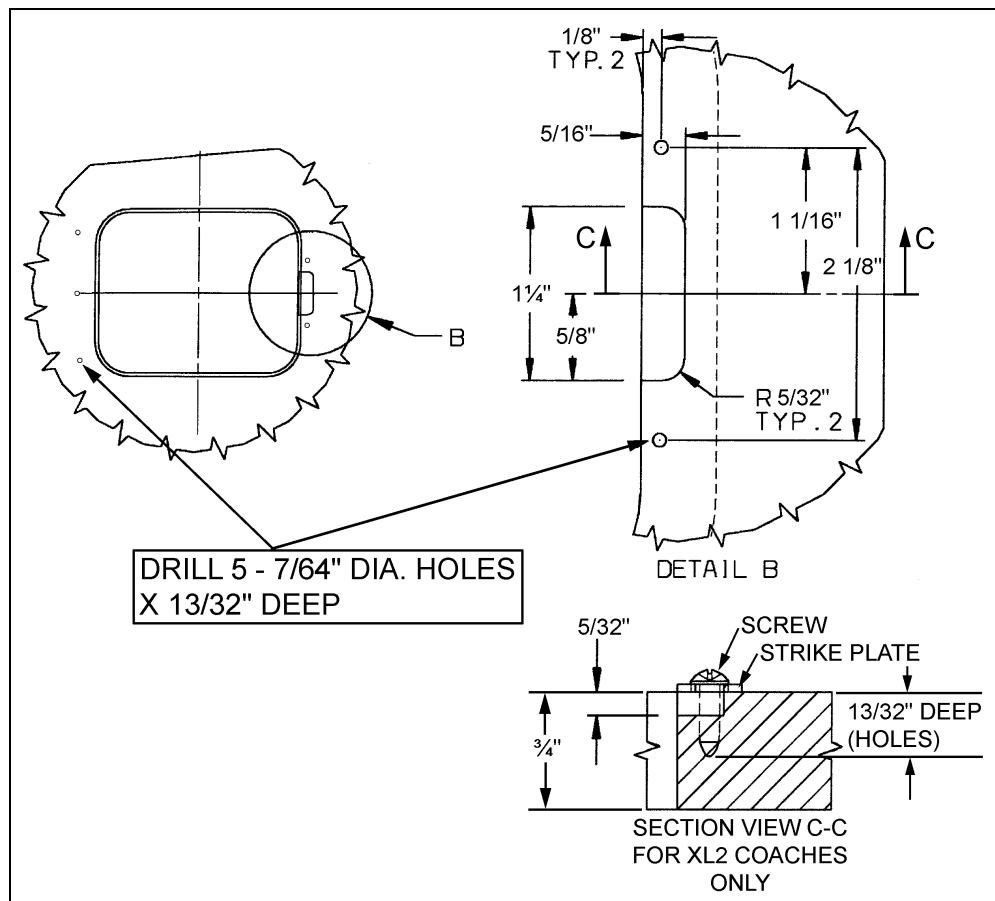

FIGURE 3
3. Cut the panel out on the R.H. side of the cleaning cabinet opening as per measurements indicated in figure 3 then drill 5 - 7/64" dia. holes. Note that the lavatory wall on H3 coaches is made of 1/4" thick fiberglass while the lavatory wall on XL2 coaches is made of 3/4" thick plywood.